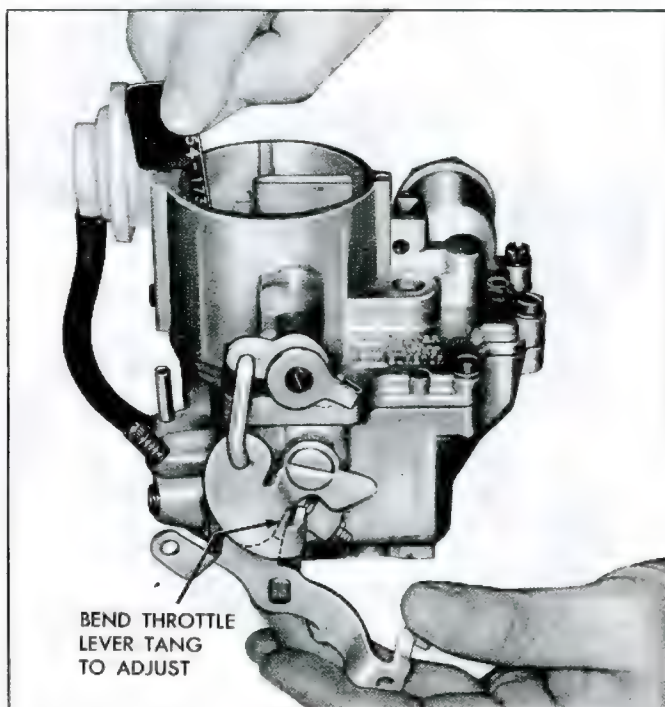

Fig. 15—Choke Unloader Adjustment
- Check unloader adjustment by holding throttle valve in wide open position and insert a $.312$ " wire gauge between choke valve lower edge and wall of bowl cover (fig. 15).